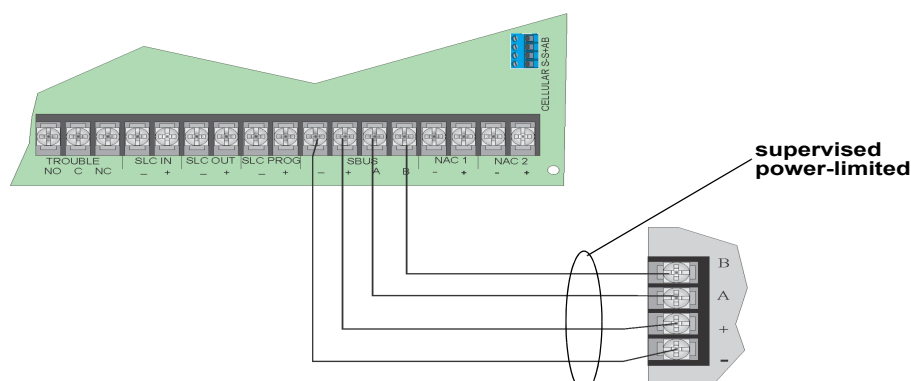

Figure 4.9 SBUS Class B Wiring
Figure 4.9 illustrates Class B configuration.
3. Wire the Annunciator board to the main control panel. See Figure 4.9.